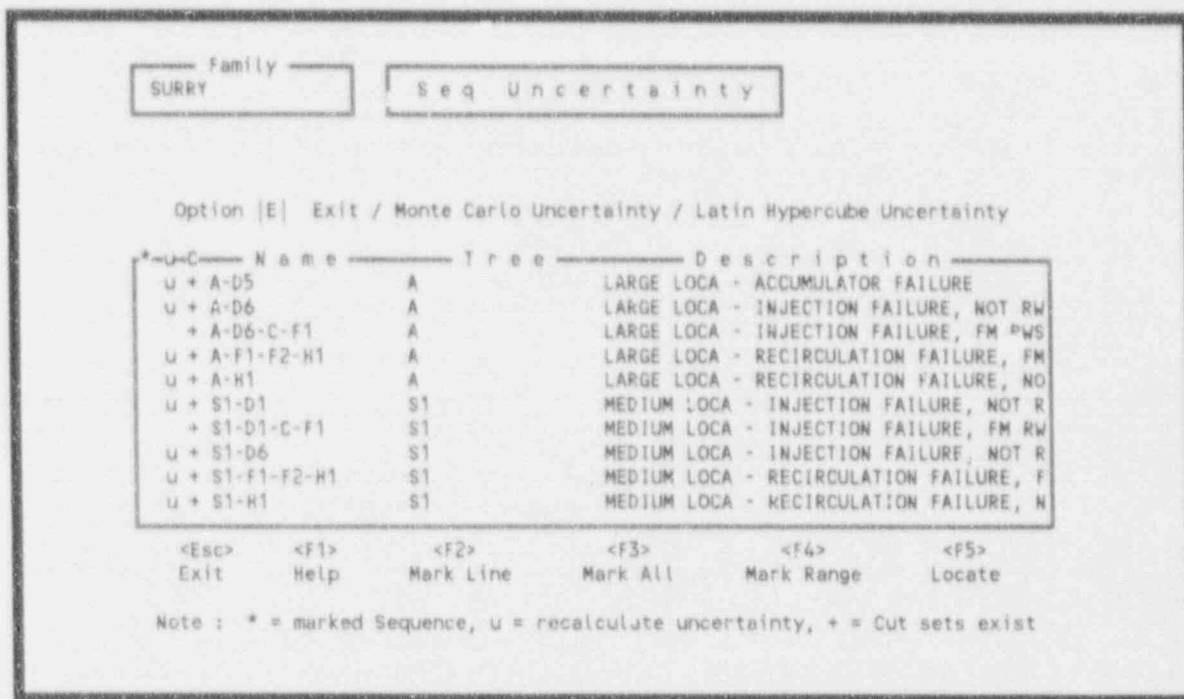

Figure 87. Sequence uncertainty menu.
**4.3.4.2 Single.** To generate a single uncertainty analysis, enter an <S> in the option field. The Sequence Uncertainty menu will be displayed (Figure 87). From this menu you may run a single uncertainty analysis for either a single highlighted sequence, for a group of marked sequences, or for all of the sequences within the current family.